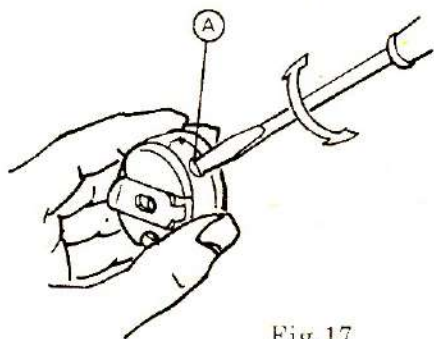

Fig.17
tension. To adjust the bobbin thread tension, you need only to turn the bobbin case spring screw (A) with a small screw driver to increase or to reduce the pressure on the bobbin thread (fig 17)